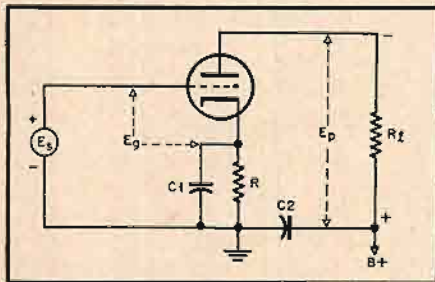

Fig. 1. Basic amplifier circuit without feedback.
Connect a resistor  $R_i$  on the audio amplifier output, to "soak up" the audio energy; a resistor with the same ohmic value as the impedance of the speaker you intend using with the amplifier. The wattage rating of the resistor should be greater than the amplifier's rated output. You can use a monitor speaker at reduced volume, by employing a 100-ohm resistor in series with the speaker across the resistor load, as in Fig. 1.
To review briefly an amplifier without feedback, Fig. 1 is a circuit of a 6J5 triode which has a plate resistance of 7,700 ohms and a  $\mu$  of 20. The gain of any stage is expressed by the familiar
Referring to Fig. 1, the grid circuit terminology includes  $E_s$  and  $E_g$ , denoting source and sink voltages respectively.
Figure 3 shows the 7,700-ohm load line that the 6J5 of Fig. 1 is working under; a plate supply of 275 volts will drive a 6.0-ma current through the load and also produce a bias of 8.0 volts across a 1333-ohm bias resistor. A 5.0-volt signal  $E_s$  will produce a 5.0-volt drop,  $E_g$ , across the input resistance  $R_g$  of the tube so the output voltage from Eq. (3) will be